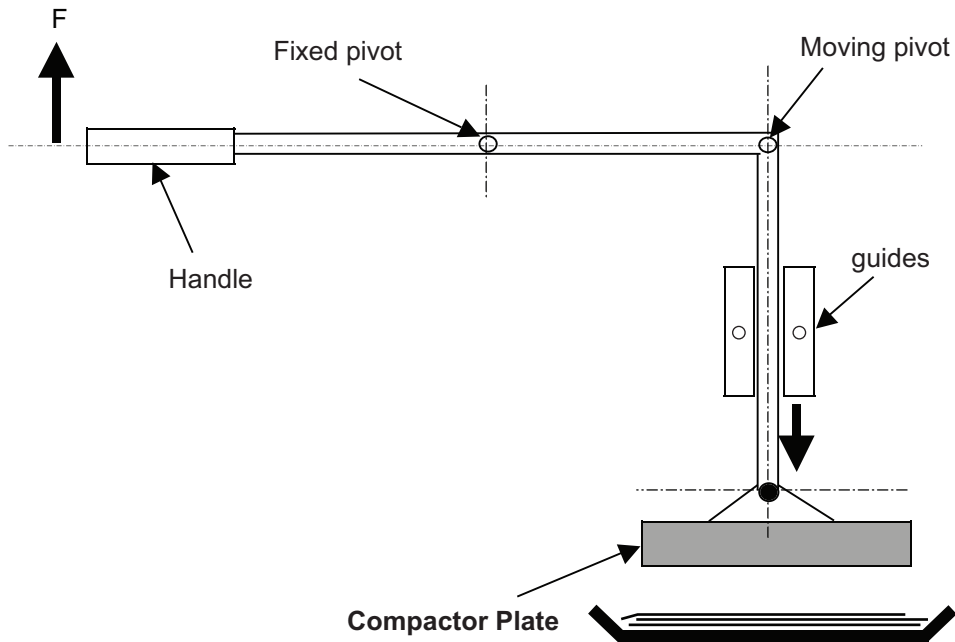

Fig. 3(a)
- 3 (a) **Fig. 3(a)** shows a linkage which forms part of a prototype manual compactor for recycled waste. A force F is applied as shown which enables the compactor plate to press on the waste.